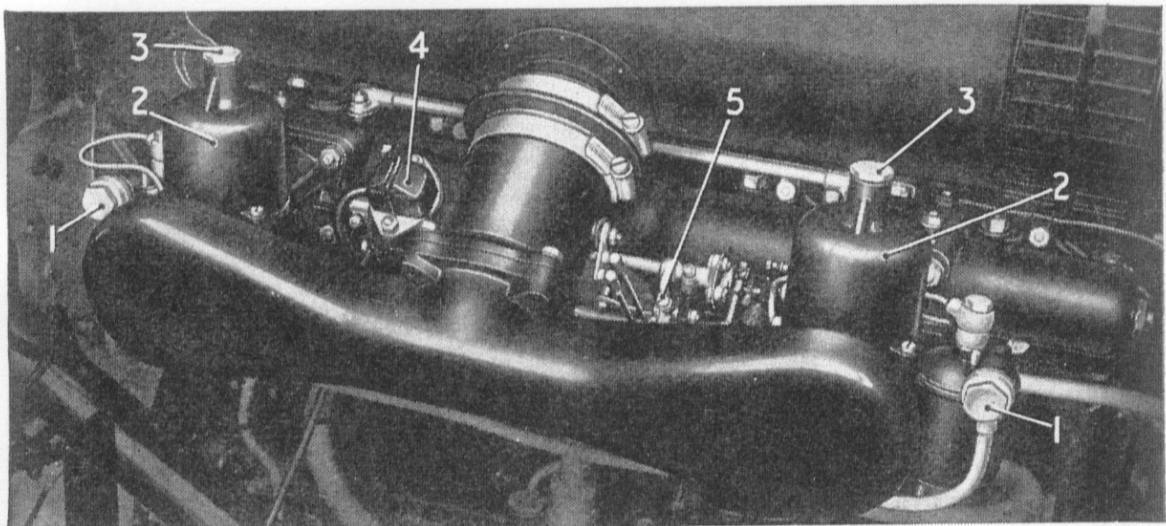

Fig. 13.—CARBURETTERS IN POSITION ON ENGINE.
Removal is effected by unscrewing the two union nuts (1, Fig. 13). The filter gauzes can then
Two carburetters of the conventional S.U. type are fitted as shown in Figs. 13 and 14, one being shown in section to illustrate the principal parts.
Every month, as directed on page 32, the oil reservoir cap nut (3) (Fig. 13), should be unscrewed and the plunger withdrawn, *great care being taken to avoid damage to the plunger rod by bending*; the reservoir should be topped up, if required, with the recommended oil, so as to maintain the level of the oil to the top of the guide rod only. The plunger should then be replaced, taking care that no dirt or grit is present. A slight steady pressure may be required to displace the oil sufficiently to allow the engagement of the thread of the oil reservoir cap nut.
The quantity of mixture for slow running is determined by means of an adjustable screw stop on the front carburetter (5, Fig. 13) which limits the closing movement of both throttles. This is so adjusted that the engine will idle slowly but reliably when the accelerator pedal is released, no hand control being provided.